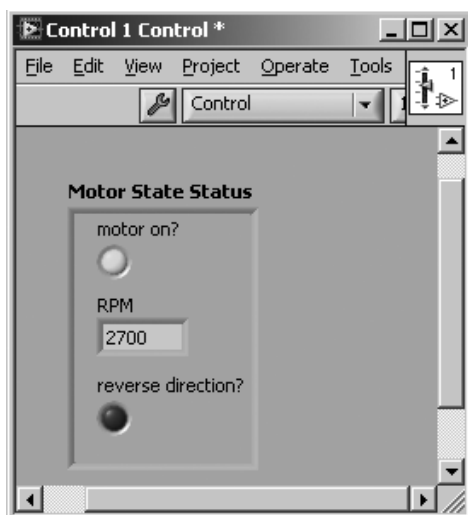

Figure 13.65
3. You will now see your cluster in a new window called **Control 1 Control** or something similar (see Figure 13.65). This is a custom control window.